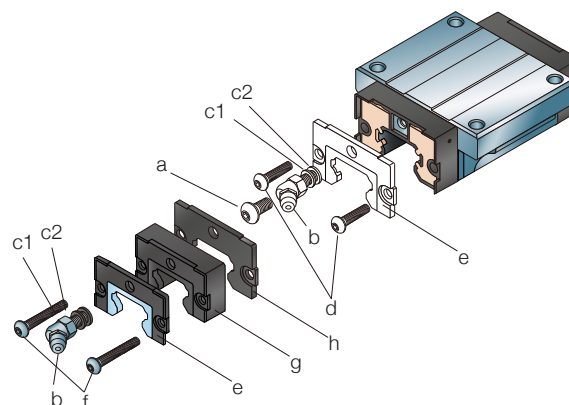

Fig. 30
1. Remove grease nipple (b) and washers (c1, c2) or the set screw (a) (→ fig. 30)